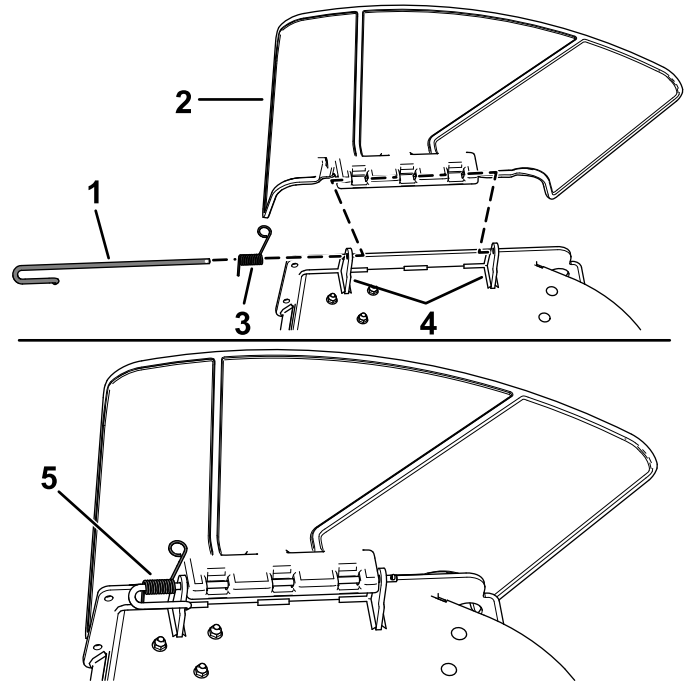

Figure 75
1. Remove the cotter pin (Figure 75).
2. Disengage the spring from the notch in the deflector bracket and slide the rod out of the welded deck brackets, spring, and discharge deflector (Figure 75).
9. Install the cotter pin (Figure 75).